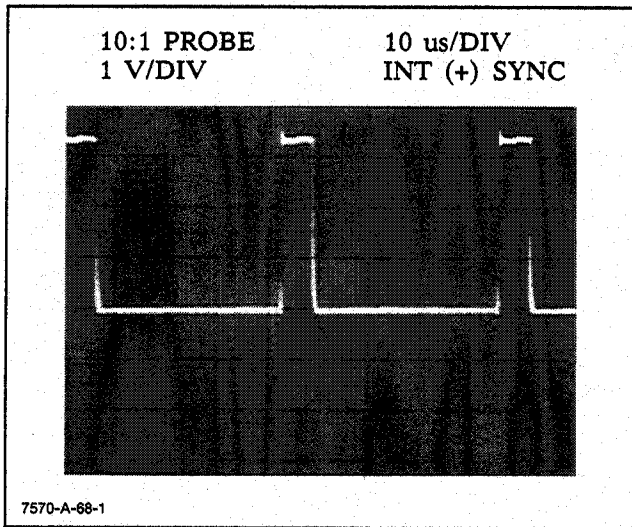

Figure 8-5. Motor Drive Output
- h. Each drive signal should appear similar to the waveform in Figure 8-5.